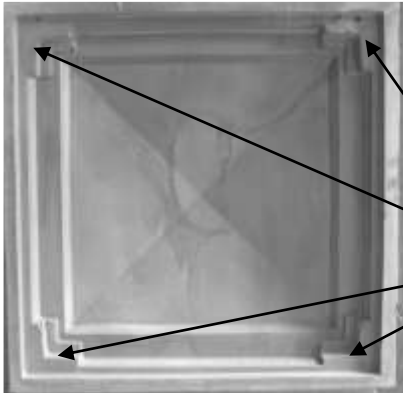

Fig. 3
- 4) Use adhesive on the 4 modified landing points to secure the cap. (Fig 3)
4) Place the bottom ring (marked B), flange down, onto the deck. Pre-drill the four sides and attach the ring to the post using 2" galvanized screws. Use shims to make the ring snug and centered on post. (Fig. 3)
(Fig. 3)
4) Place the bottom ring (marked B), flange down, onto the deck. Pre-drilled the four sides and attach the ring to the post using 2" galvanized screws. Use shims to make the ring snug and centered on post. (Fig. 3)